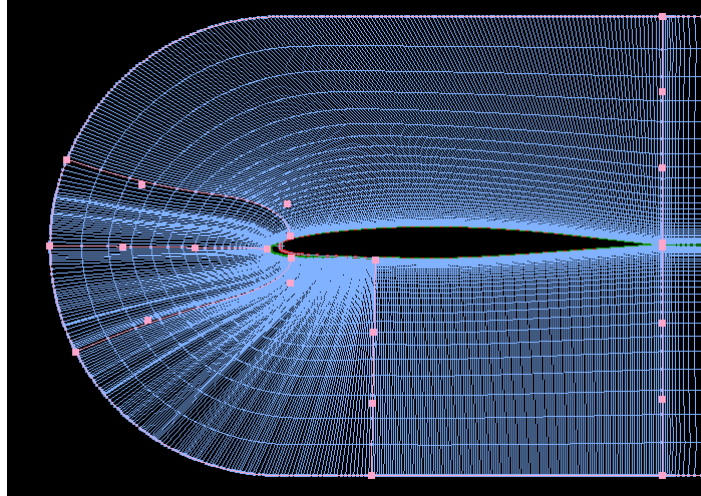

Figure 26. Radial cuts shaped using critical points.
- Move the critical points to approximate those shown below in Figure 26.